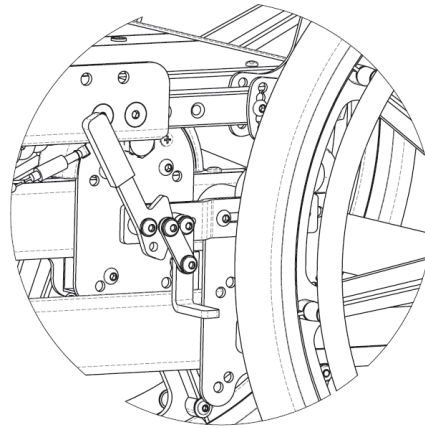

Figure 16.37: *Pull to Lock Wheel Locks*
2. To engage the pull to lock wheel lock (see Figure 16.37), pull the lever towards the wheel until it locks into place.